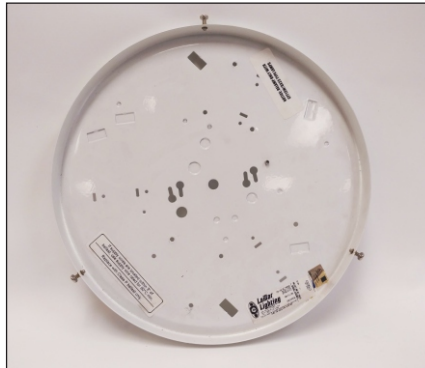

Figure 1
1. Start by removing the original lamp, ballast and socket from the luminaire see figure 1.